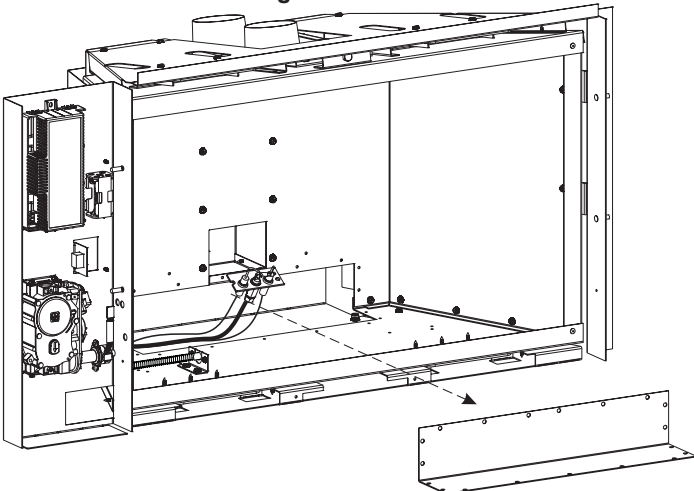

Figure 42
16. Remove the 18 screws securing the blower access panel to the firebox and set aside. Remove the blower access panel and set aside. **See Figure 42.**